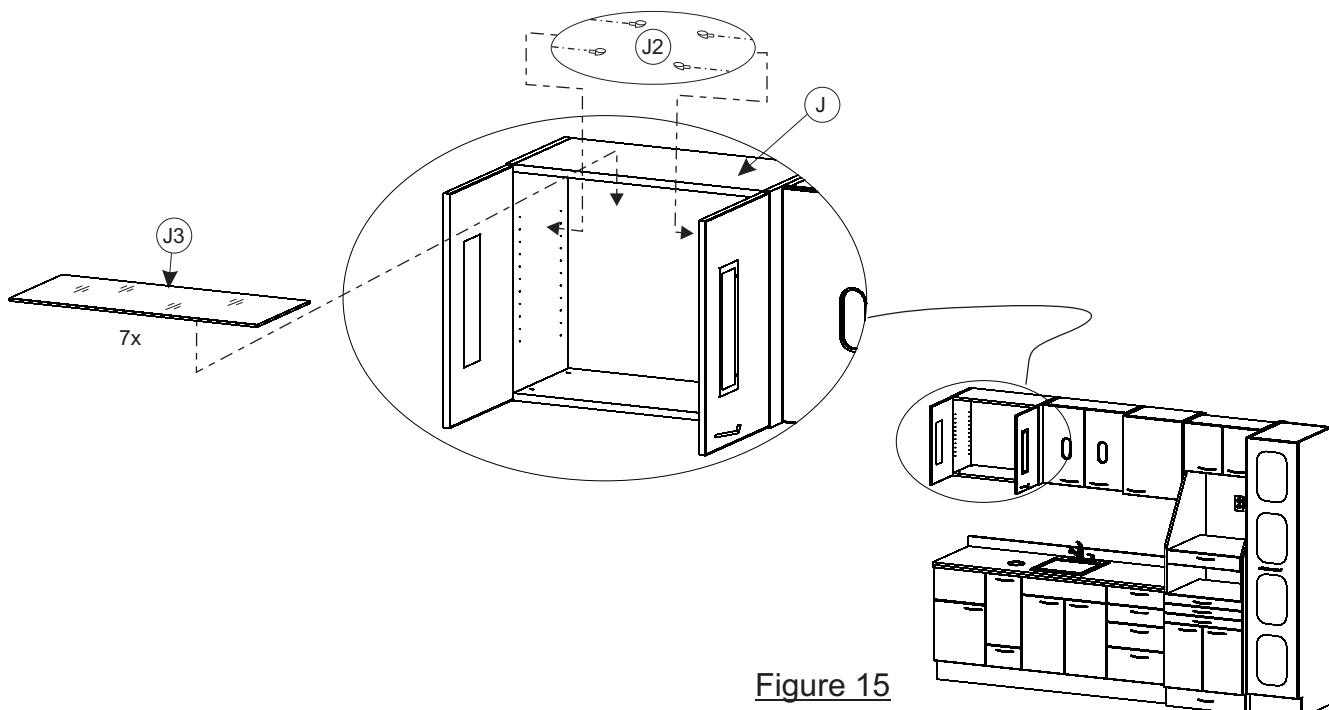

Figure 15
Insert Shelf Supports (J2) into the holes in the interior end panels in the Wall Cabinet (J) then set each Glass Shelf (J3) onto the Shelf Supports (see Figure 15).